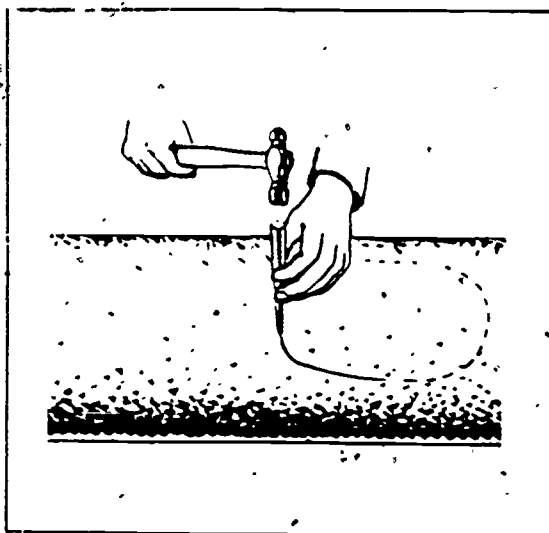

Figure 1-14 Cutting a hole in the main sewer
**Tapping the main sewer.** After the thimble is prepared, you are ready to tap the main sewer. You should install the thimble above the normal sewage flow line. You can determine the location for the hole by tapping the main lightly with a ball peen hammer. A dull sound indicates that you are tapping below the sewage level, and a ringing sound indicates that you are tapping above the sewage level. When you have determined the position of the hole, use the thimble as a pattern for marking the line of the hole with chalk. Make the cut on this line with a small cold or cape chisel and an 8-ounce ball peen hammer, as shown in figure 1-14. Use only light blows when you make the cut, because if you damage the main sewer you will